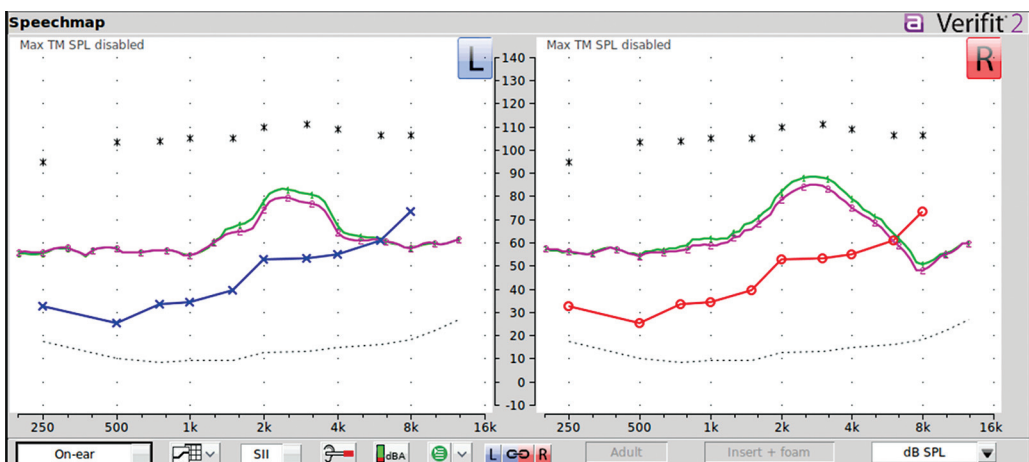

Figure 24 Reduction in gain with noise reduction activated (weak).
6. Now run another curve using the same input. As time goes by, you will observe a drop in real-ear output gain (Figures 24 and 25).